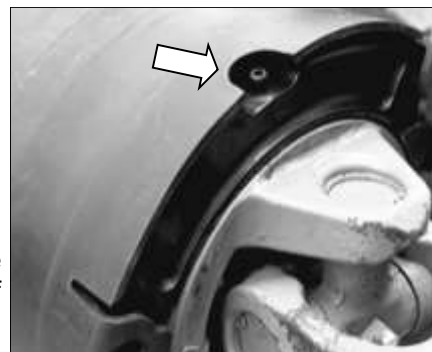

Fig. 53
- There is a plastic grease fitting in the rim of the cover (Fig. 53). This greases a large slipper bearing which allows the driveshaft to rotate inside the covers. Apply **2 - 4 pumps** of multi-purpose grease.